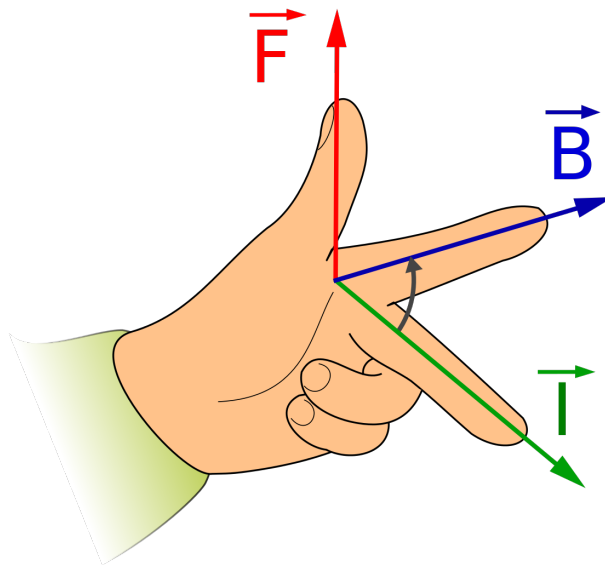

Figure 1.1: Fleming's left hand rule ¹
In general, a current flowing through a wire induces an magnetic field that is perpendicular to the wire, while also experiencing a force that is perpendicular to both the wire and the magnet field. This relationship can be visualized using Fleming's left hand rule: Using your left thumb, index and middle fingers as mutually perpendicular axis, the direction of the resulting force (thumb), magnetic field (index finger) and direction of current flow (middle finger) can be obtained. Here, it is assumed that the direction of the mechanical force is literal, the direction of the magnetic field is from the north to the south pole, and the direction of the electric current is in line with that of conventional current (positive to negative). There are several mnemonics to memorize what quantity is related to which finger, one of which is the *FBI* rule that associates the SI units for force (F), magnetic flux density (B) and current (I) with the fingers starting from the thumb to the middle finger, as in Figure 1.1.